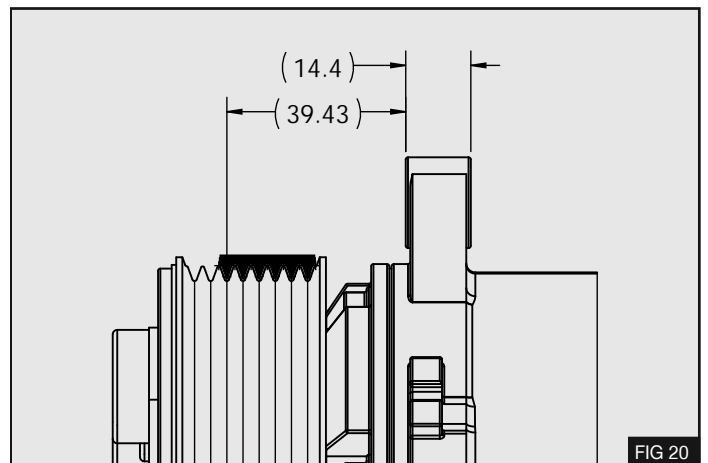

FIG 20
2. Place the belt in the correct groove of the compressor clutch as shown opposite (Seltec / Que PV8) – Fig 20